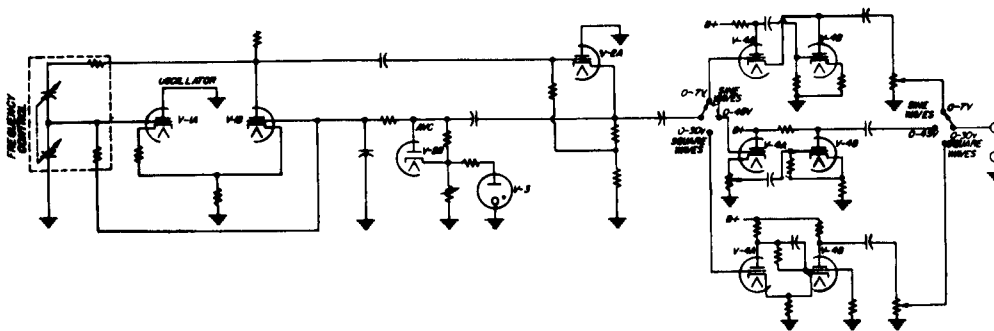

Figure 2. Elementary Schematic Diagram, Type 1210-B Unit R-C Oscillator.
2.1 OSCILLATOR CIRCUIT. The oscillator circuit is essentially a series-parallel R-C network. (See Figure 2.) At operating frequency, the voltage from the network is one-third the input voltage, and of the same phase as the input. At frequencies above and below operating frequency, the output and input voltages differ in phase and the attenuation is greater than 3 to 1. When an amplifier of zero phase shift and a gain of at least 3 to 1 is connected from the output to the input of the R-C network, the circuit oscillates. Continuously variable capacitors provide at least a 10-to-1 frequency range, and resistor switching provides five decade ranges. Resistors are deposited-carbon-film type for greater stability.